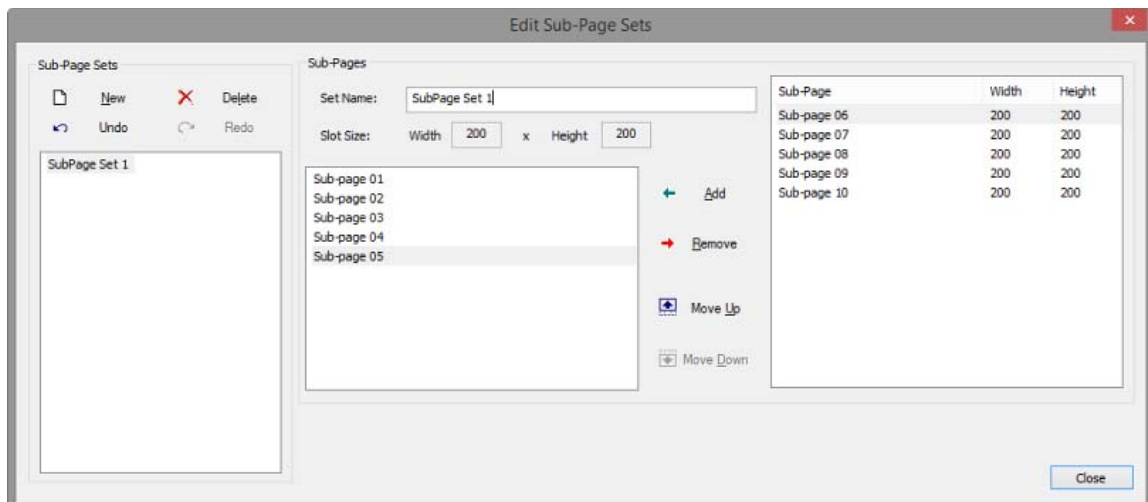

FIG. 98 Edit Sub Page Sets dialog - Adding more Sub-Pages to a Sub-Pages list
- c. Repeat this process to add other Sub-Pages to the selected Sub-Page Set (FIG. 98):